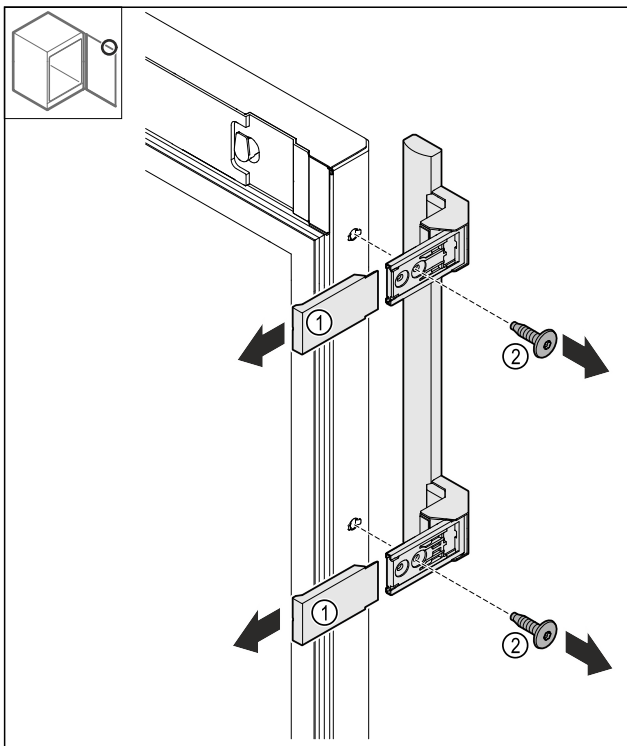

Fig. 25
- ▶ Tõmmake katted Fig. 25 (1) maha.
- ▶ Vabastage kruvid Fig. 25 (2).